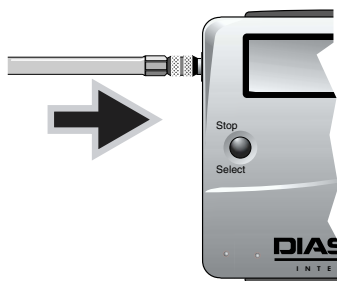

*Fig 4 - Connection of the cuff to the Diasys
- Pass the tubing behind the patient’s neck and connect the cuff connector to the Diasys, preferably already in the protective pouch (fig 4).